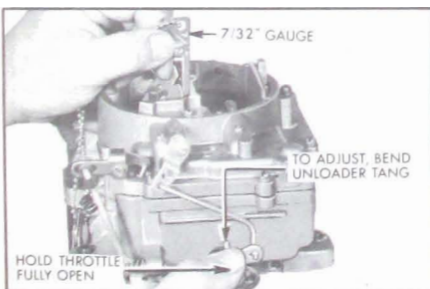

Figure 3-87—Unloader Adjustment
5. Adjust Unloader. Hold throttle wide open and check clearance between upper edge of choke valve and inner wall of air horn using the 7/32" gauge or a 7/32" drill. Bend unloader tang on throttle shaft lever as required to obtain this clearance using pliers. See Figure 3-87.